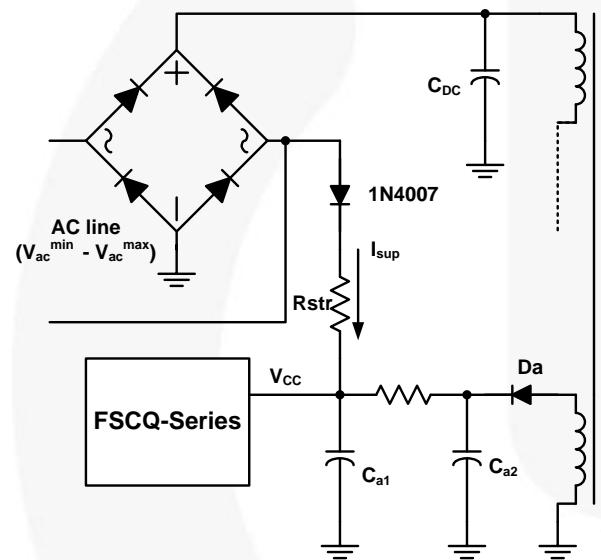
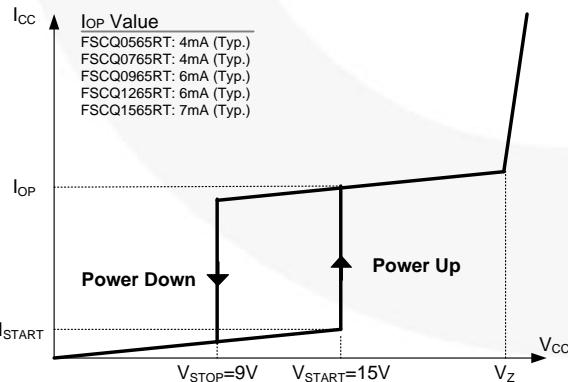

Figure 25. Startup Circuit
Figure 26. Relationship between Operating Supply Current and V_{CC} Voltage
1. Startup: Figure 25 shows the typical startup circuit and the transformer auxiliary winding for the FSCQ series. Before the FSCQ series begins switching, it consumes only startup current (typically 25 µA). The current supplied from the AC line charges the external capacitor (C_{a1}) that is connected to the V_{CC} pin. When V_{CC} reaches the start voltage of 15 V (V_{START}), the FSCQ series begins switching and its current consumption increases to I_{OP} . Then, the FSCQ series continues normal switching operation and the power required is supplied from the transformer auxiliary winding, unless V_{CC} drops below the stop voltage of 9 V (V_{STOP}). To guarantee stable operation of the control IC, V_{CC} has under-voltage lockout (UVLO) with 6 V hysteresis. Figure 26 shows the relationship between the operating supply current of the FSCQ series and the supply voltage (V_{CC}).